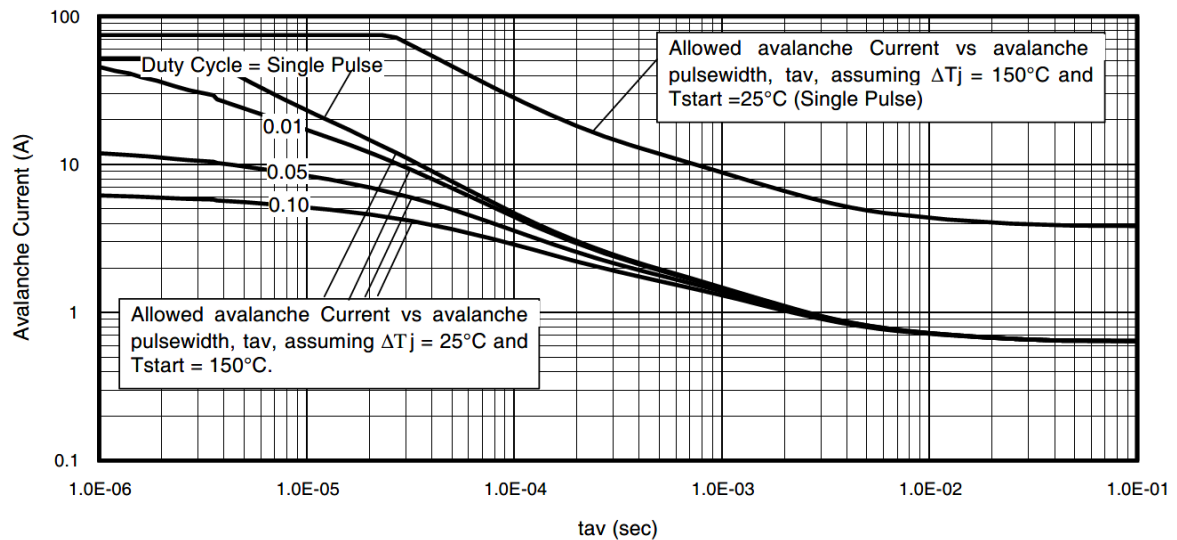

Fig 14. Typical Avalanche Current vs. Pulsewidth
Notes on Repetitive Avalanche Curves, Figures 14, 15: (For further info, see AN-1005 at www.inf.com)
7. ΔT = Allowable rise in junction temperature, not to exceed T_{jmax} (assumed as 25°C in Figure 14, 15).